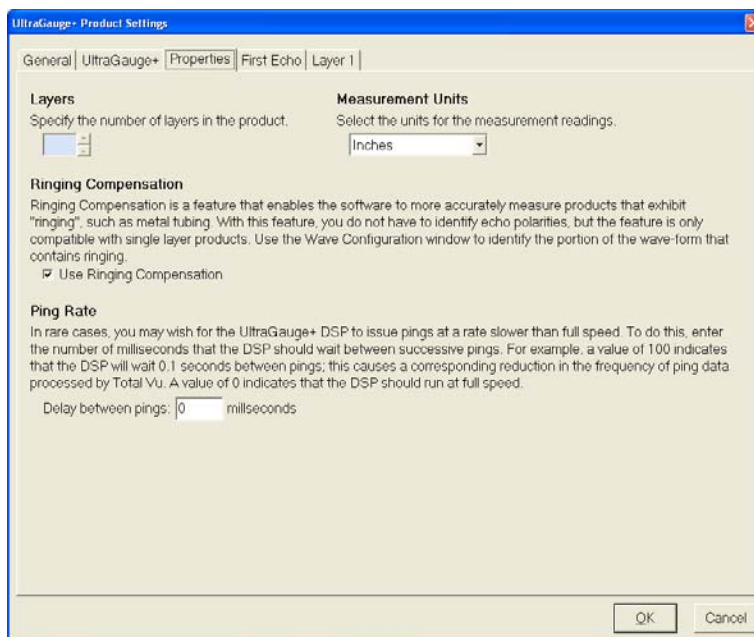

Figure 54: The Properties tab of the UltraGauge+ Product Settings panel.
2. Select the Use Ringing Compensation checkbox (see Figure 54).
In many cases, one of the two peak directions will show a “cleaner” set of ringing peaks. The waveform shown in figure 54 contains positive peaks with a somewhat jagged appearance, while the negative peaks have a simpler peak shape that is easier for the software to measure. In this case, using the negative peaks is the better choice.